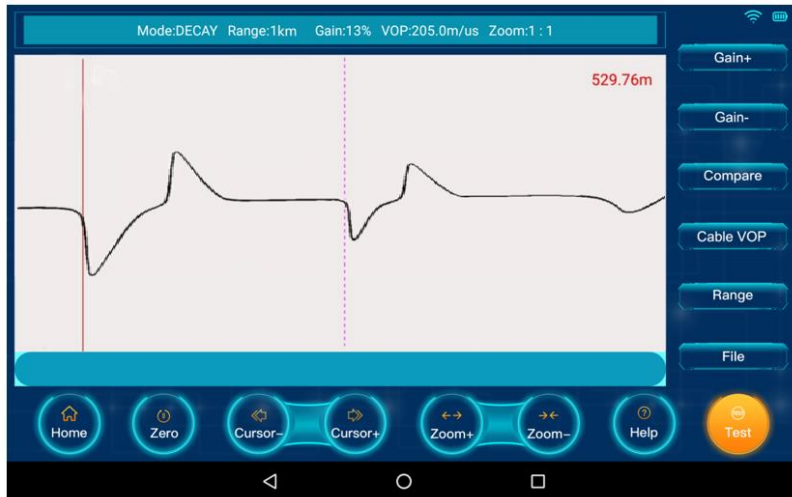

Figure 4.29 Decay waveform
Pressing on MIM (Figure 4.3 ⑬) brings up the Decay mode display (figure 4.29).
If the waveform amplitude is too small or too large, the gain can be adjusted, pressing <Test> (Figure 4.29 ⑧) continues the testing process. This can be repeated until a waveform with a suitable gain is obtained. The distance to the fault is measured between similar points on consecutive cycles using the cursors.